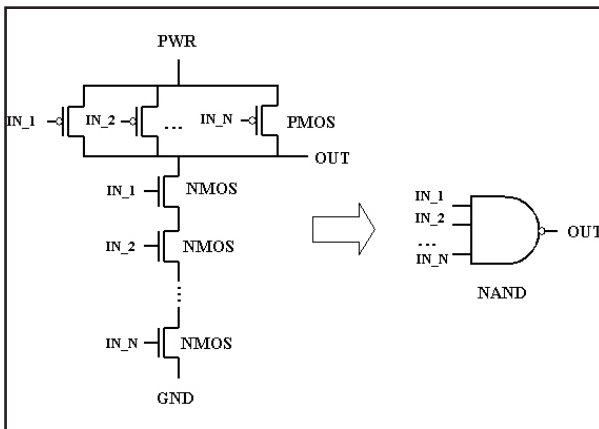

Figure 4. NAND\_N
- **NAND\_N** — CMOS **NAND** with N inputs (Figure 4)